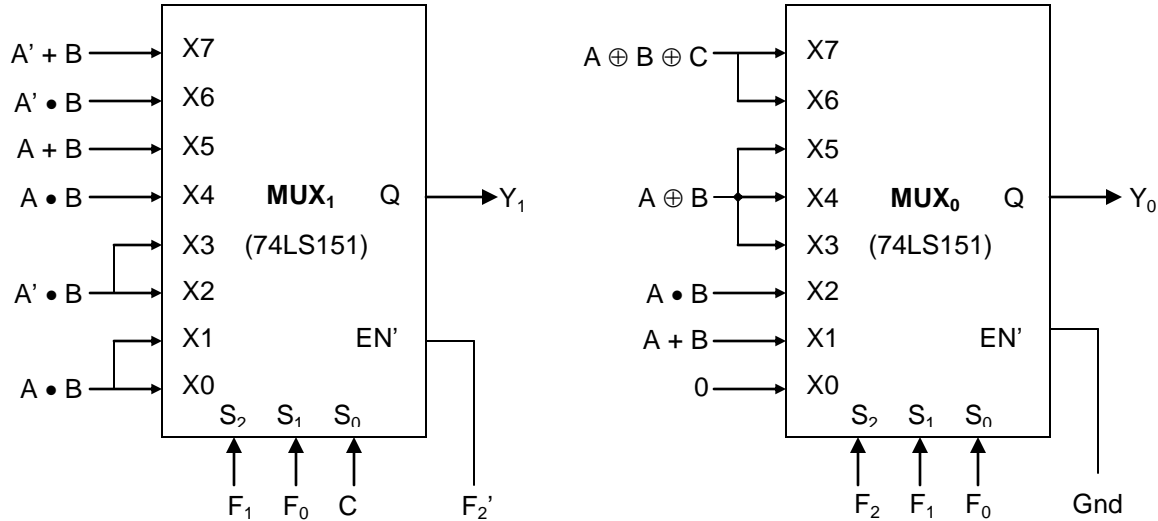

Fig. 3.2 Input connections for MUX₀ and MUX₁
2. The final ALU output bits Y_0 and Y_1 will be generated by the two 8-input multiplexers – referred to as **MUX₀** and **MUX₁** respectively. The required data, select and output enable inputs of **MUX₀** and **MUX₁** are shown in **Fig. 3.2**. Note that **MUX₀** is always enabled, while **MUX₁** is enabled only when $F_2 = 1$, i.e.
5. Assemble the complete circuit by adding two 74LS151 chips, used as **MUX₀** and **MUX₁**, to the circuit assembled so far, making connections to all the inputs of **MUX₀** and **MUX₁** according to **Fig. 3.2**. Use a third gate from the XOR chip to generate $F_2' (= F_2 \oplus 1)$, providing the Enable input for **MUX₁**.